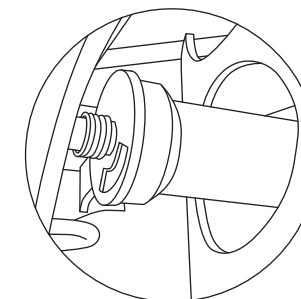

Fig. 1
2. Adjust the flame to the desired height. Flame should be compact and blue with a slight yellow tip. If the flame is too "yellow", adjust the air mixture valve under the throat of the cast burner (Fig. 1) until the flame color is achieved.